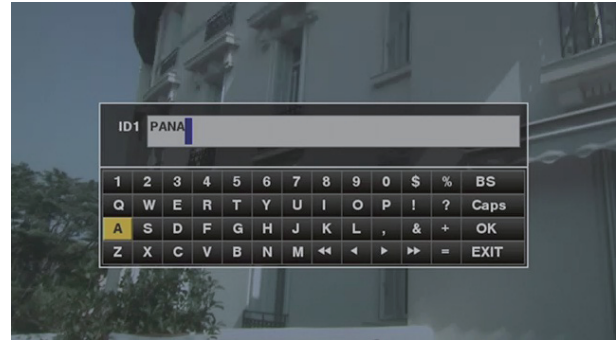

Fig. 2
- 3 Use the jog dial button (or cursor buttons $\Delta/\nabla/\leftarrow/\rightarrow$) to select the desired characters. (Fig. 2)